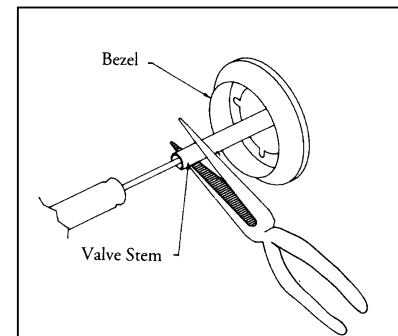

Fig. 36 Low Setting Adjustment
4. While holding the valve shaft with pliers, insert a thin, flat tipped screwdriver into the shaft and while viewing the burner adjust to a minimum stable flame (Fig. 36).